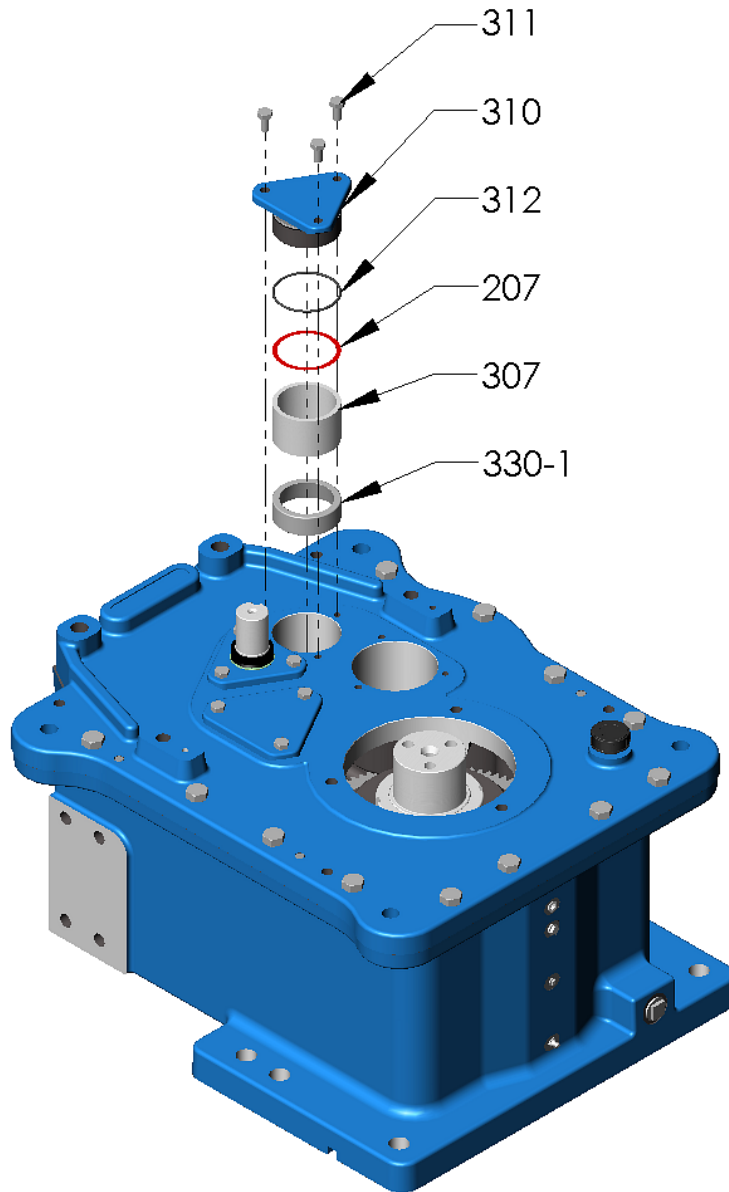

Figure 23 – 1st Intermediate Cap
- T. At 1st intermediate shaft, install following items (refer Figure 23):